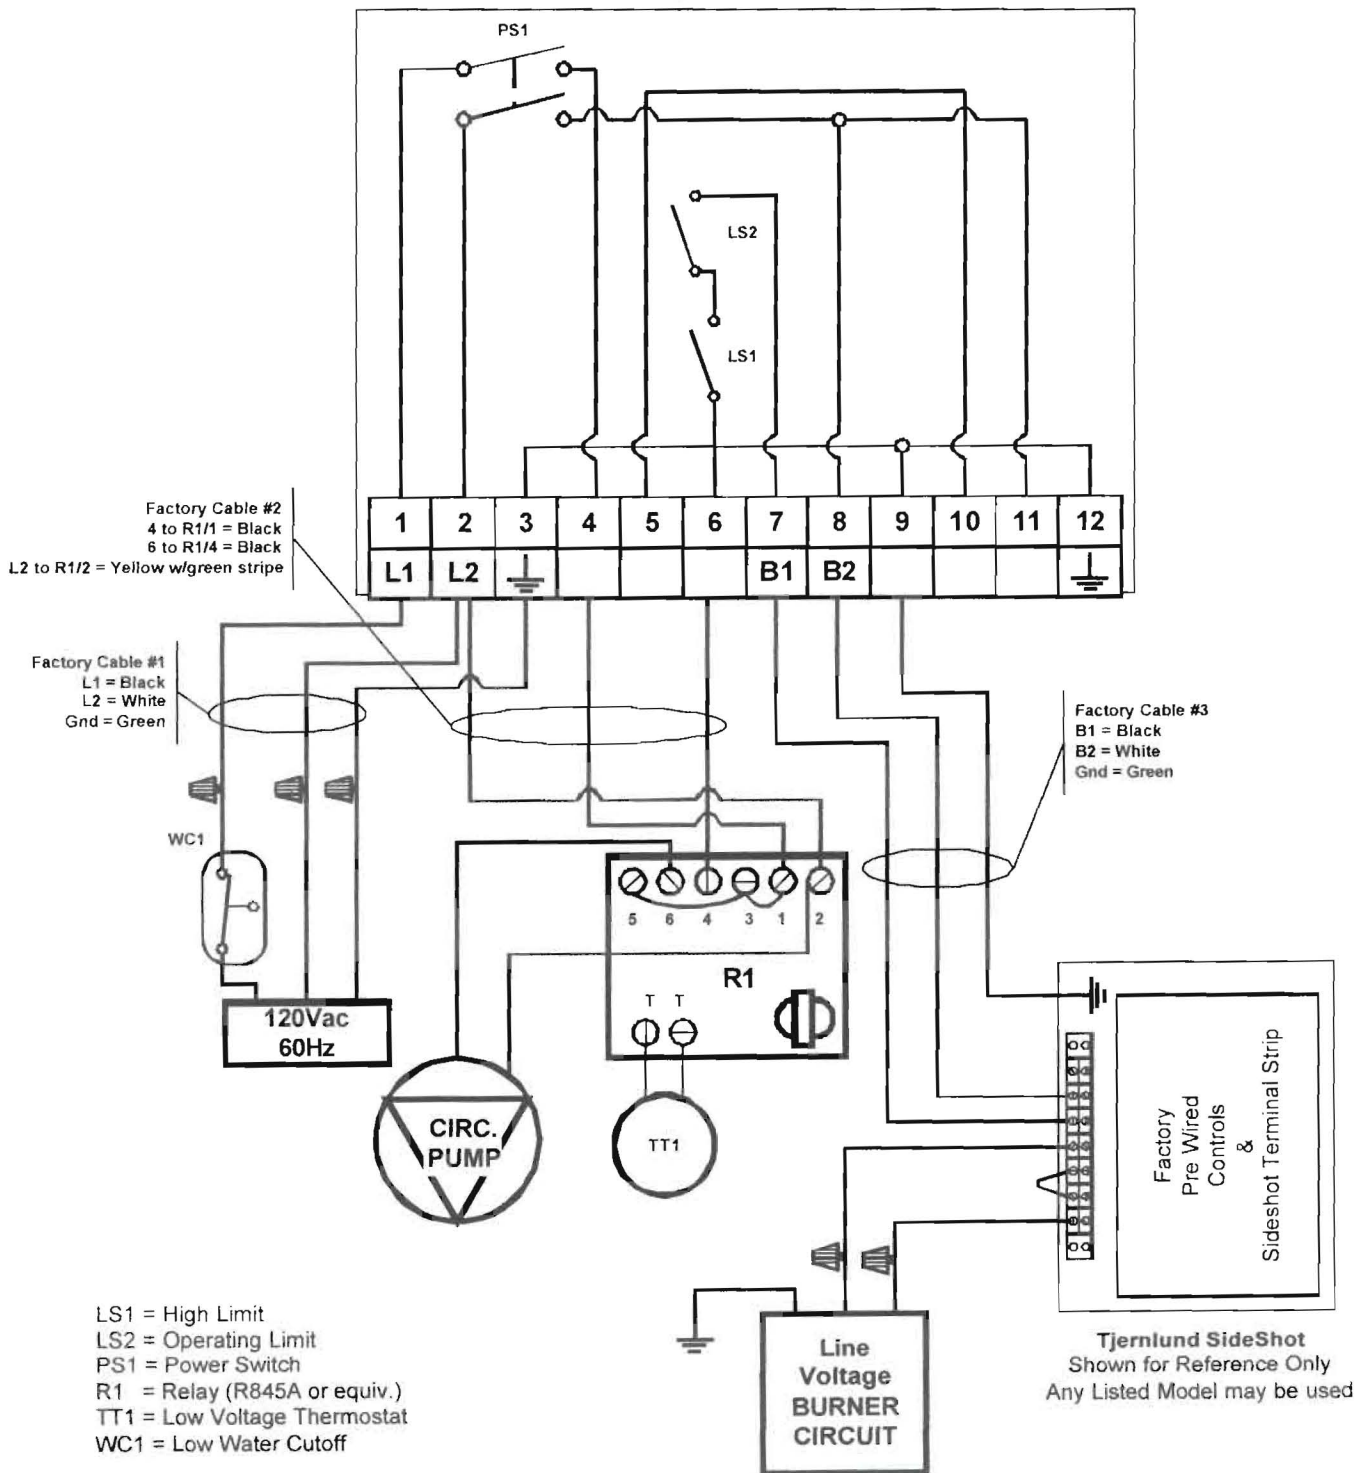

Figure 9
7. **Figure 9** shows the identical installation for a powerventer application.